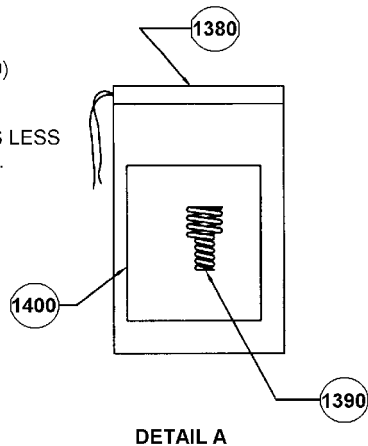

Figure 25. mRoy B Metallic and Plastic Liquid End (DWG 102-2146-0002)
6.16 LIQUID END “RB” & “RM” (FIGURE 25)
6.17 LIQUID END “RS” (FIGURE 25)